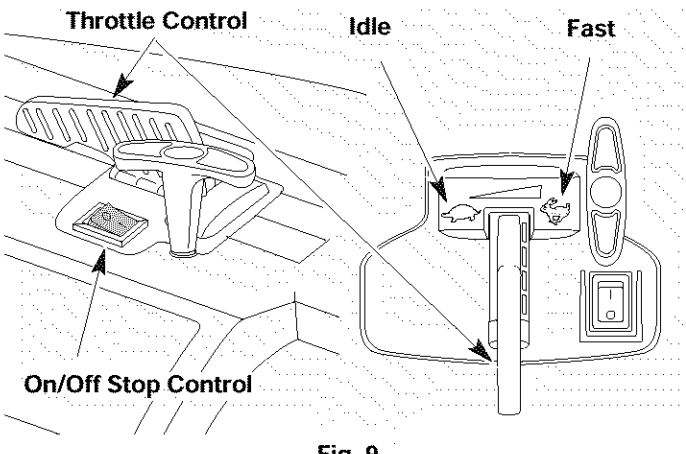

Fig. 9
NOTE: The On/Off Stop control is a momentary switch and is always in the **ON (I)** position (Fig. 9).
5. With the unit on the ground (Fig. 11), move the throttle control to the fast position () (Fig. 9).
NOTE: If the engine floods while trying to start, place the choke control in the **RUN (C |+)** position. Move the throttle control to the fast position () (Fig 9). Pull the starter rope briskly. The engine should start with three (3) to eight (8) pulls.
1. Move the throttle control to the idle position () (Fig. 9). Allow the engine to cool down by idling for 10-15 seconds.
2. Press and hold the On/Off Stop control down in the **STOP (O)** position until the engine comes to a complete stop (Fig. 9).
1. Press and hold the On/Off Stop control down in the **STOP (O)** position until the engine comes to a complete stop (Fig. 9).